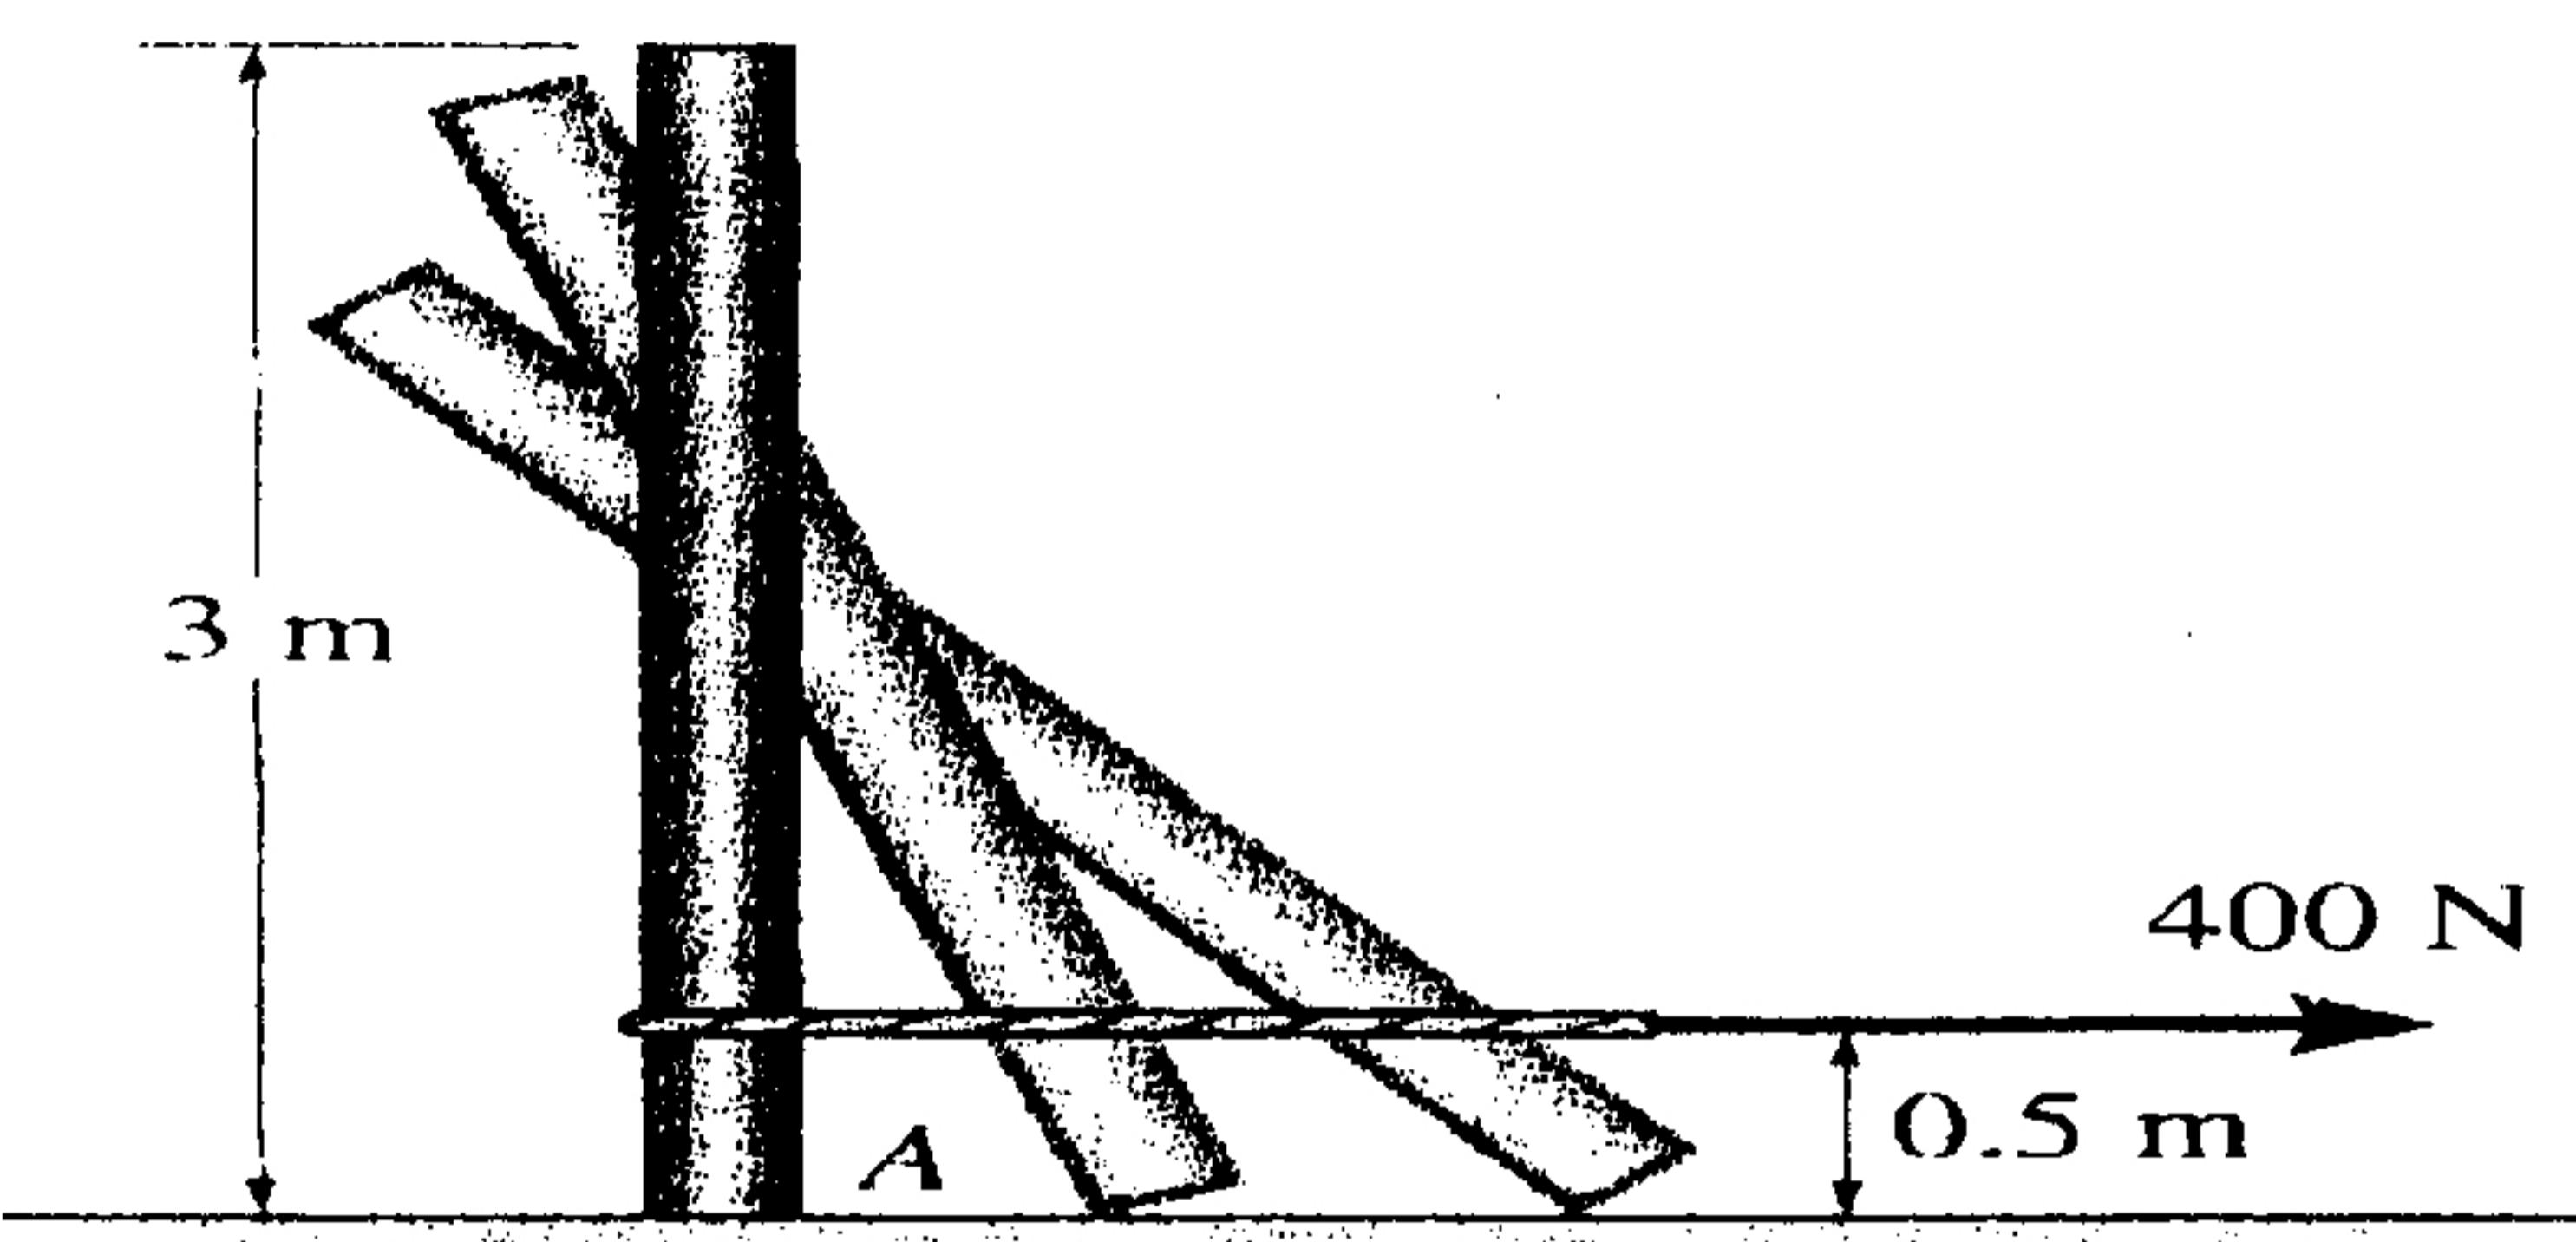

Fig.3
3. The uniform slender pole shown in Fig. 3 has a mass of 100kg and a moment of inertia $I_G = 75 \text{ kg}\cdot\text{m}^2$. If the coefficients of static and kinetic friction between the end of the pole and the surface are $\mu_s=0.3$ and $\mu_k=0.25$ respectively. Determine the pole's angular acceleration at the instant the 400-N horizontal force is applied. The pole is originally at rest. 20%